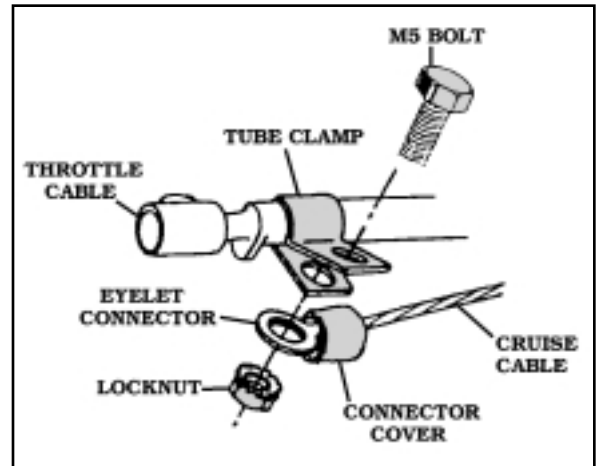

FIGURE 14
1. SELECT A **TUBE CLAMP** THAT FITS THE THROTTLE CABLE. MAKE SURE THE TABS OF THE **TUBE CLAMP** POINT AWAY FROM THE CARBURETOR OR AIR THROTTLE, THIS WILL PREVENT THE THROTTLE FROM HANGING. **FIGURE 14**
3. PUT THE **M5 BOLT** THROUGH THE HOLES IN THE **TUBE CLAMP**. SLIDE THE **EYELET CONNECTOR** OVER THE BOLT. THREAD THE **LOCKNUT** ONTO THE BOLT AND TIGHTEN. **FIGURE 14**